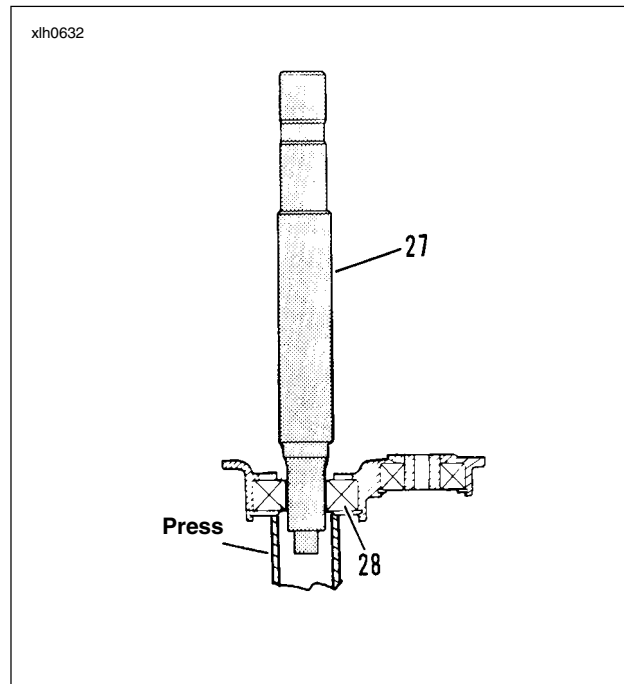

Figure 6-40.
1. Find a section of pipe that matches the inner race of mainshaft bearing (28). See Figure 6-40. Place the door assembly, outside downward, on a press with the inner race of bearing (28) resting on the section of pipe. Insert the splined end of the shaft through the bearing and hold in a vertical position. Press the shaft into the bearing until the bearing bottoms against the shaft shoulder.